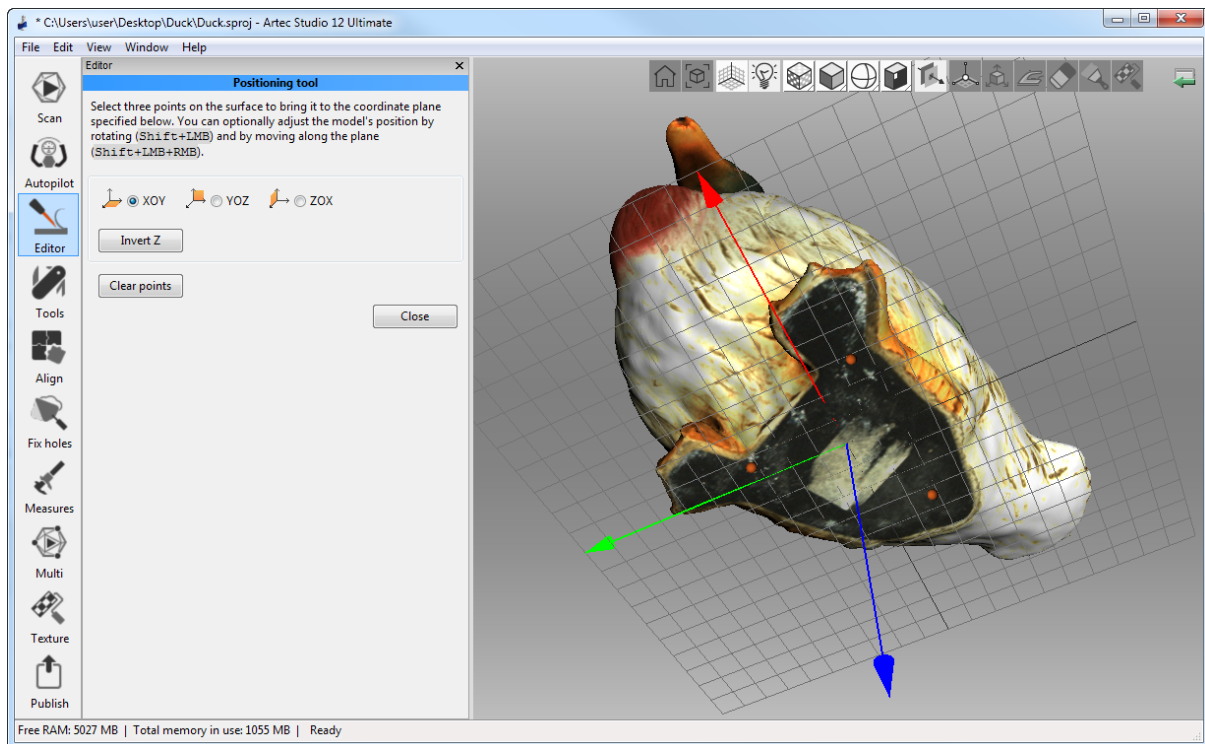

Figure 8.52: Positioning the model in the global coordinate system.
3. Use `LMB` to specify at least three points on the surface; the plane will automatically pass through their center of mass (see Figure 8.52). The following conditions will then apply: